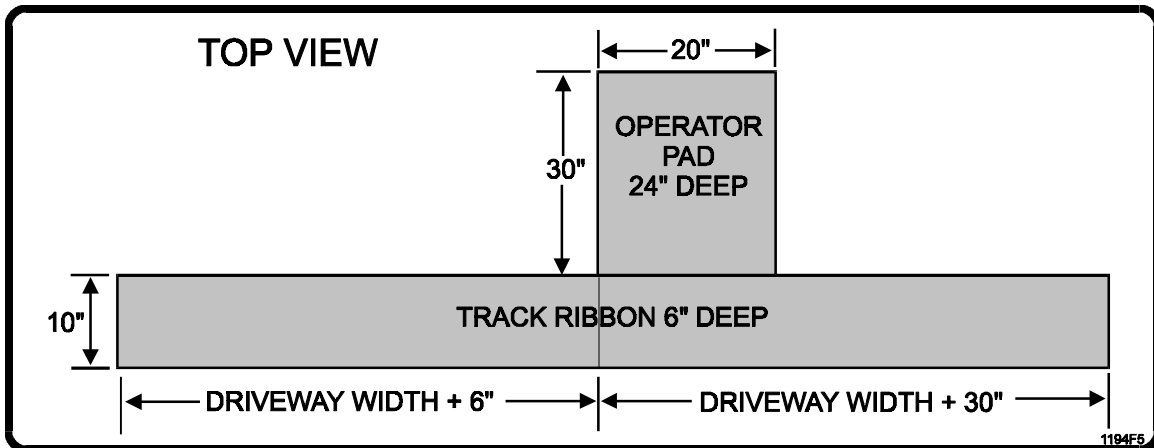

Figure 4. Pad and Track Ribbon.
1. The concrete pad must be sufficient to support the gate operator and the forces created by the moving gate. LiftMaster recommends a pad 20" wide by 30" long by 24" deep (Figure 4).